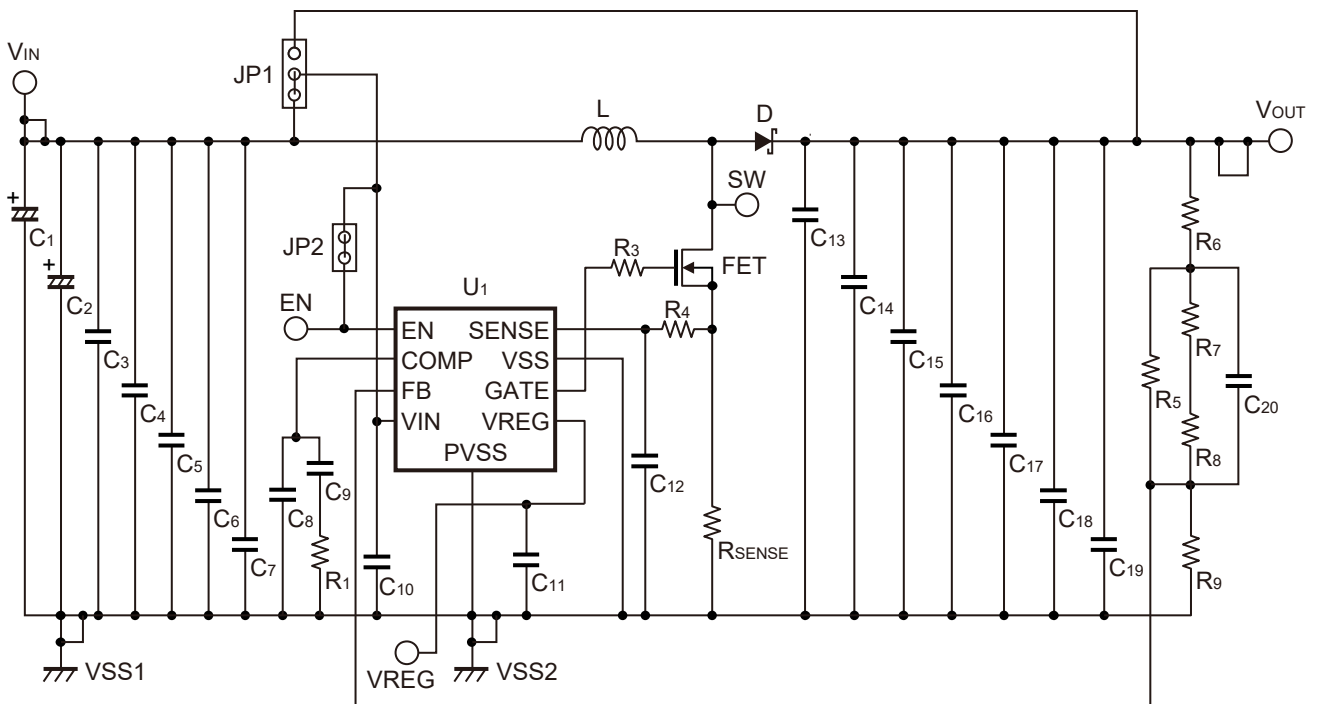
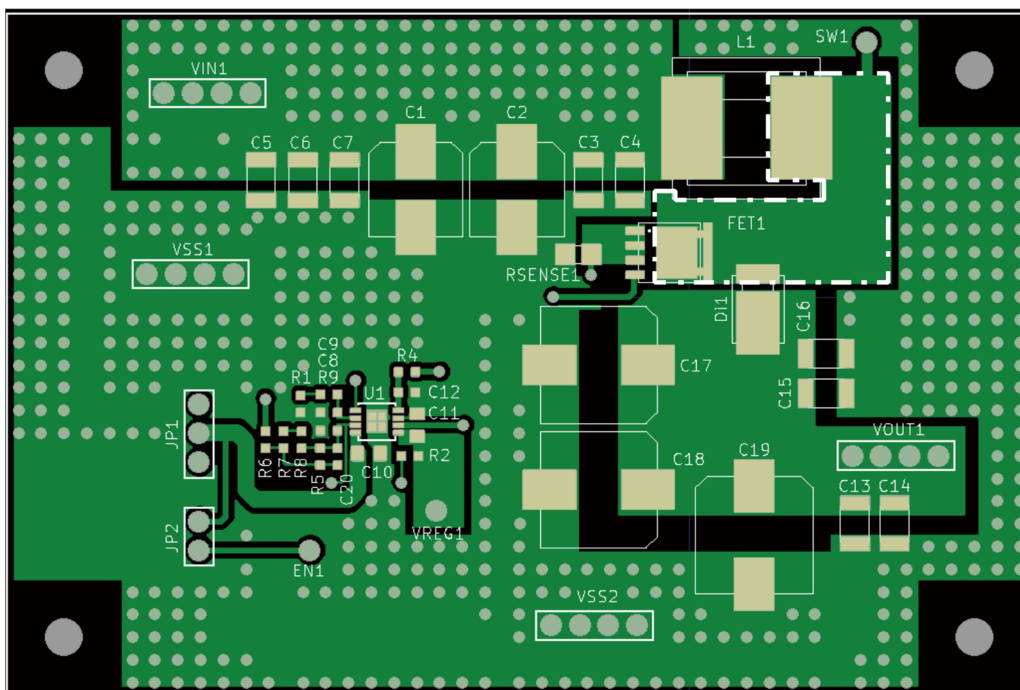
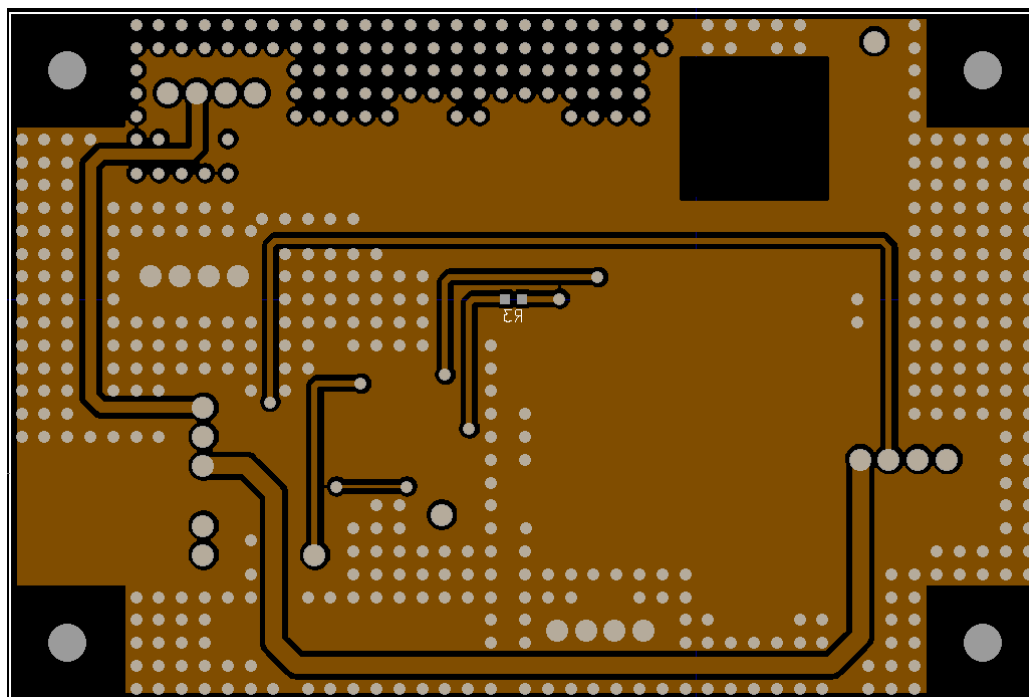

Figure 6
Figure 7 Top Layer (First Layer)
Figure 10 Bottom Layer (Fourth Layer)
Figure 6 shows the circuit diagram of a step-up application created by ABLIC Inc.
Table 4 shows external components used in the connection examples: Figure 6.
The board we have created for the application circuit diagram in **Figure 6** has four layers, which are shown in **Figure 7** to **Figure 10**.
- The SW wiring area (Dashed line area in "**Figure 7 Top Layer (First Layer)**") should be as small as possible to reduce high-frequency radiation noise.
- All copper foil on the back of the inductor (L) should be removed to avoid losses due to eddy currents.